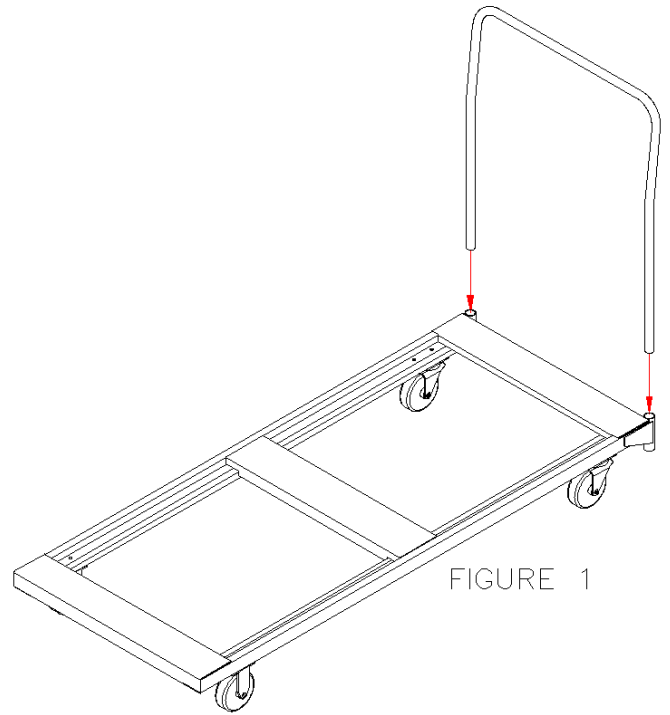
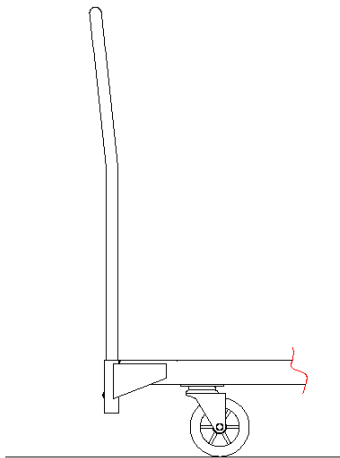

FIGURE 1
FIGURE 2
2. Insert the handle into the sockets on the end of the Base (See Figure 1). Make sure the handle tilts towards you (See Figure 2).